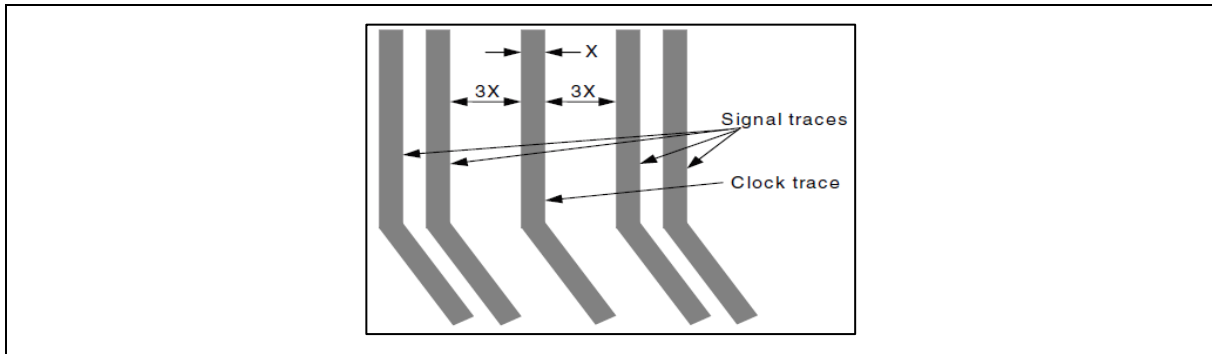

Figure 14-2 Separate SPI Clock from Other Signals
- Run the clock signal at least 3x of the trace width away from all other signal traces. This helps to keep clock signal clean from noise. See Figure 14-2.